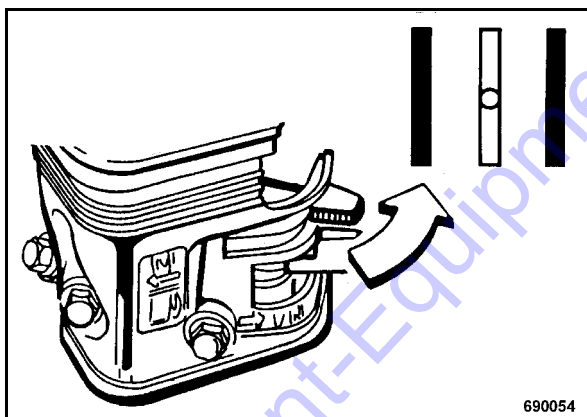

Fig. 22
- As the engine warms up open the lever (Fig. 22) of the choke slowly.